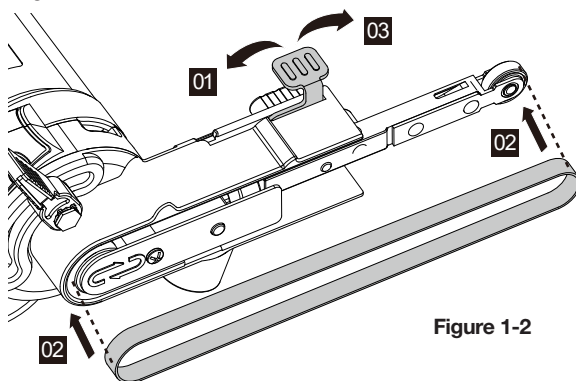

Figure 1-2
- Installing the sanding belt (See fig. 1-2)